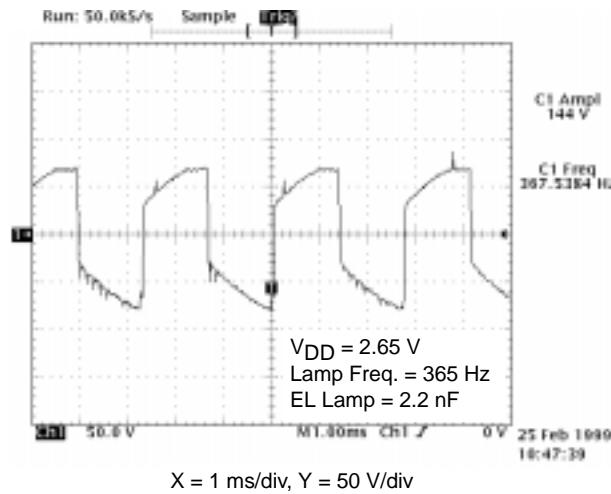

Figure 3. Output Waveform versus Time
Since the fundamental frequency of the oscillator is set by the external resistor (R1), the temperature coefficient of the frequency is dominated by the value of this resistor. A low temperature coefficient (TC) resistor is suggested to use for keeping the variation of oscillator's frequency low against the operation temperature range. (See Page 4, Fig. 3 & Fig. 4)